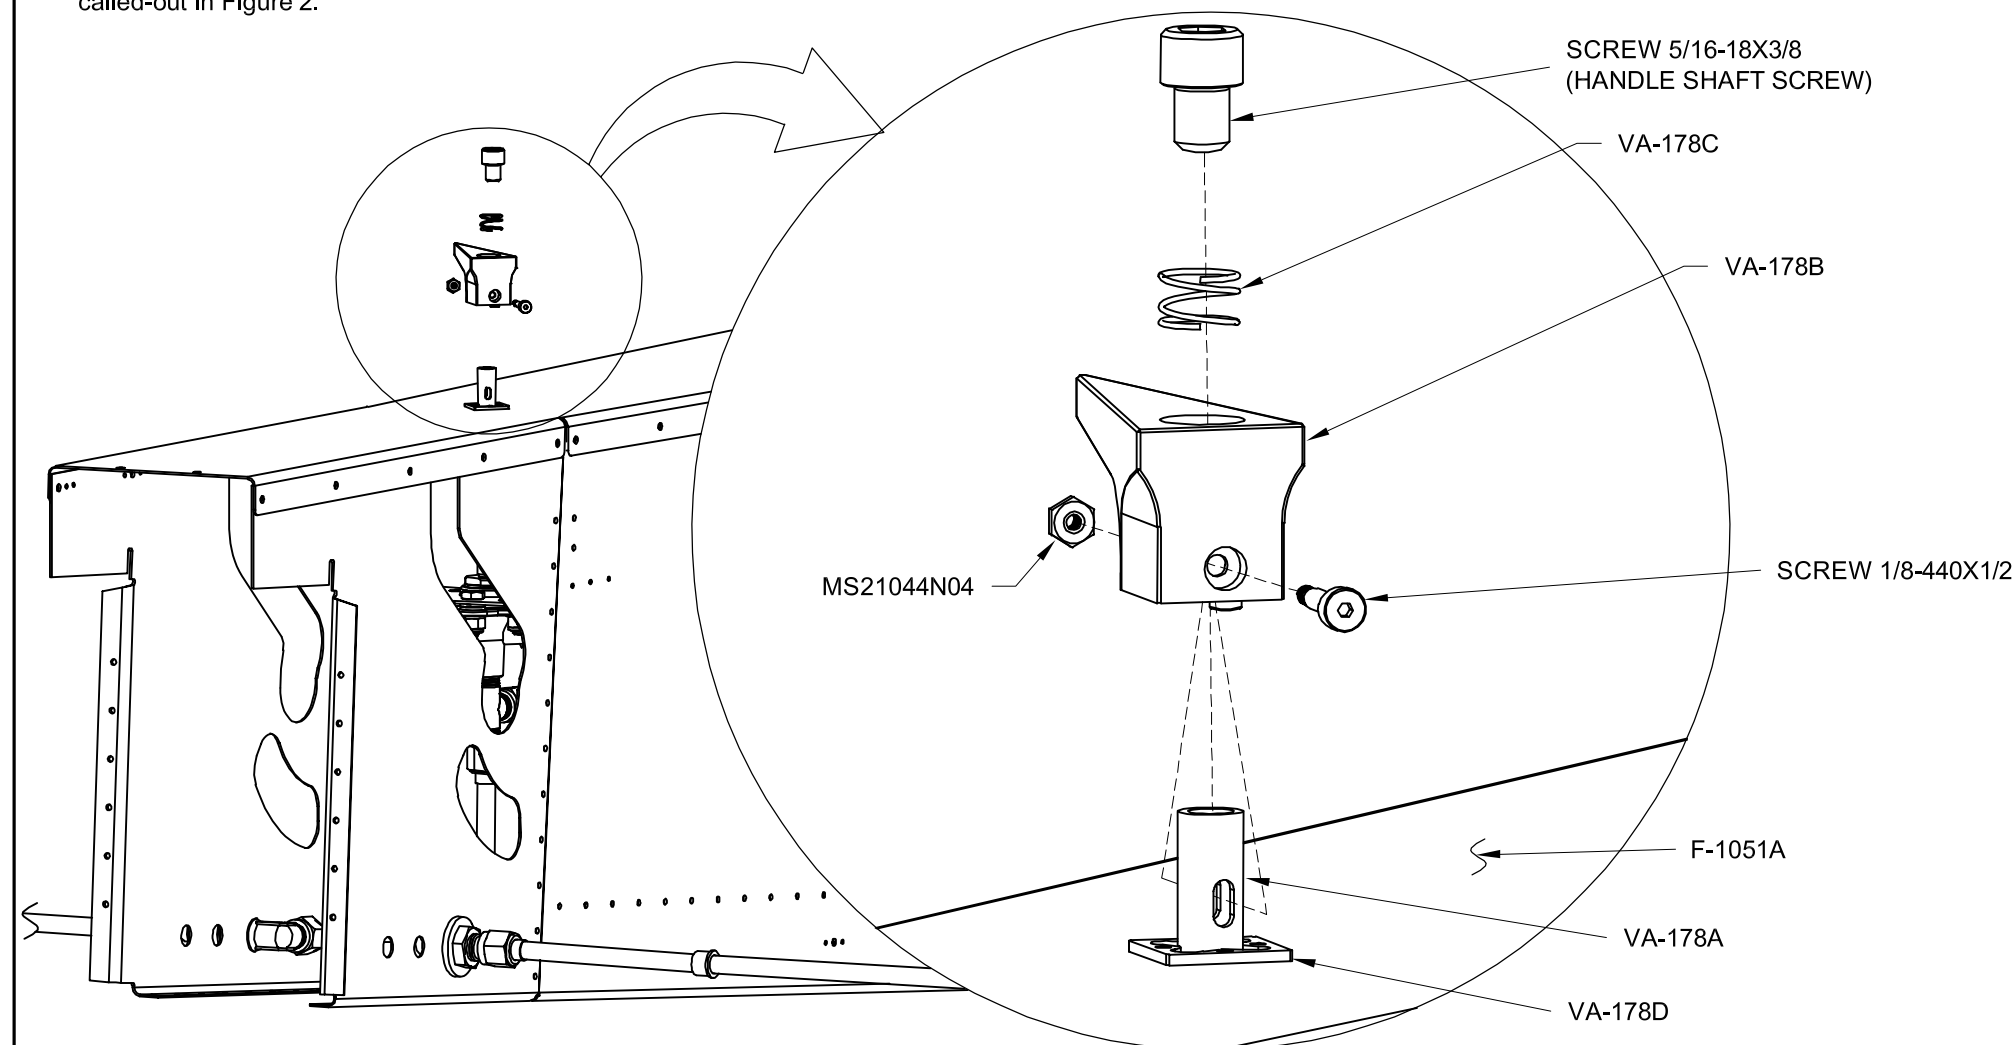

FIGURE 2: DETENT FUEL HANDLE INSTALLATION
Step 2: Place the VA-178B Detent Fuel Handle onto the VA-178A Fuel Handle Shaft, then install the VA-178C Fuel Valve Spring using the Handle Shaft Screw, as shown in Figure 2.
Step 3: Align the VA-178B Detent Fuel Handle with the slot in the VA-178A Fuel Handle Shaft, then install the handle using the screw and nut called-out in Figure 2.